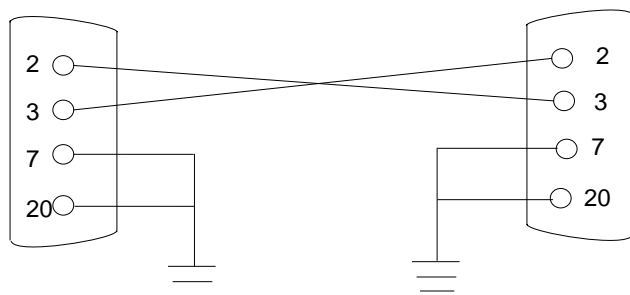

FIGURE 3-1 Setting Up a TIP Connection
1. **Connect serial port A of the tested system to serial port B of a second Sun workstation using a serial null modem cable (connect cable pins 2-3, 3-2, 7-20, and 20-7). See FIGURE 3-1.**